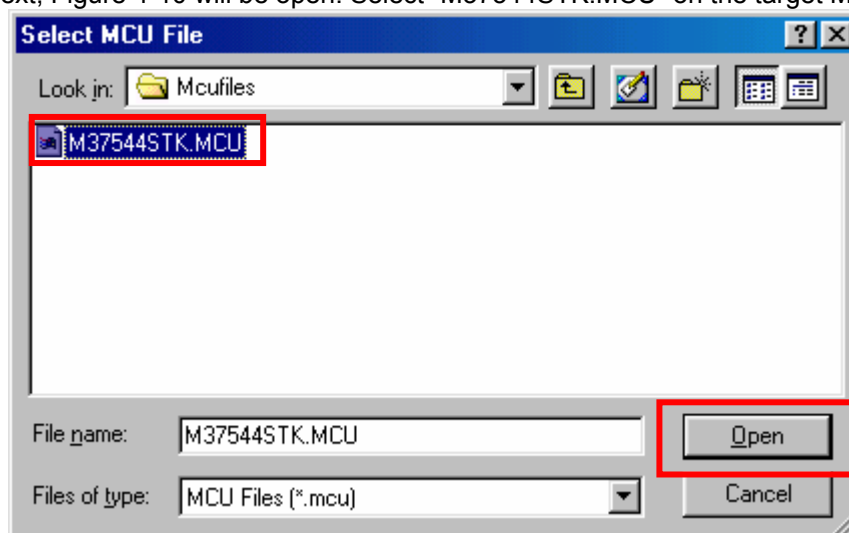

Figure 4-10 MCU File Screen
- 2)Next, Figure 4-10 will be open. Select “M37544STK.MCU” on the target MCU.